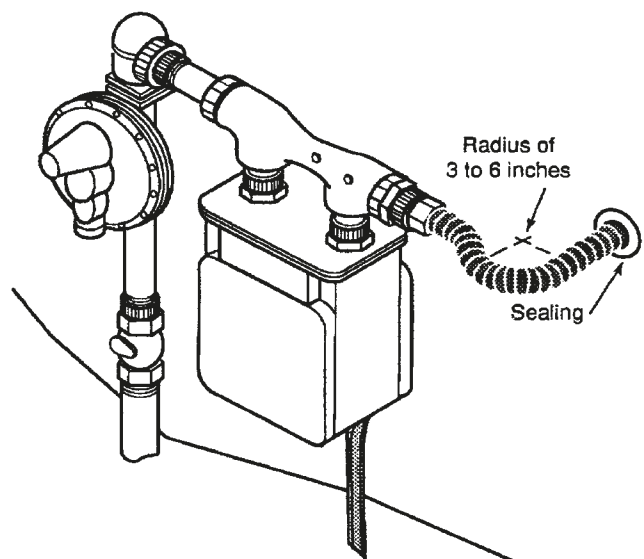

Figure: 4-13
2. Meters which are independently supported with a bracket can be directly connected outdoors with **TracPipe®**. (See Figure: 4-13). If practical, direct connections shall include a 3 to 6 inch additional length of tubing to accommodate differential settling and meter movement. No mechanical protection of the tubing is required for outdoor connections. PRIOR TO INSTALLING **TRACPIPE®** DIRECTLY TO A METER, ENSURE THAT THE LOCAL UTILITY ALLOWS THIS PRACTICE as some utilities have regulations specifying meter attachments. Any exposed sections of stainless steel piping must be wrapped with a silicone self-bonding tape. This is especially important with masonry construction. (See Figure: 4-12). A PVC sleeve is required for **TracPipe®** penetration of masonry and recommended for wood frame construction.